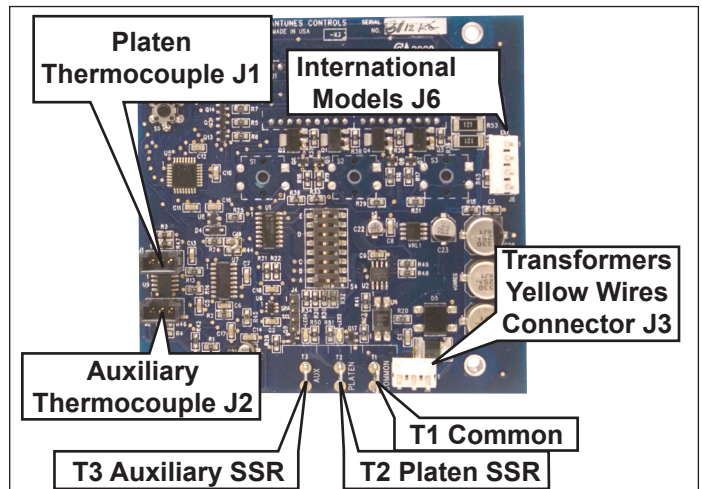

Figure 2. Control Board Connections
11. Connect all wires to the new Control Board (Figure 2).